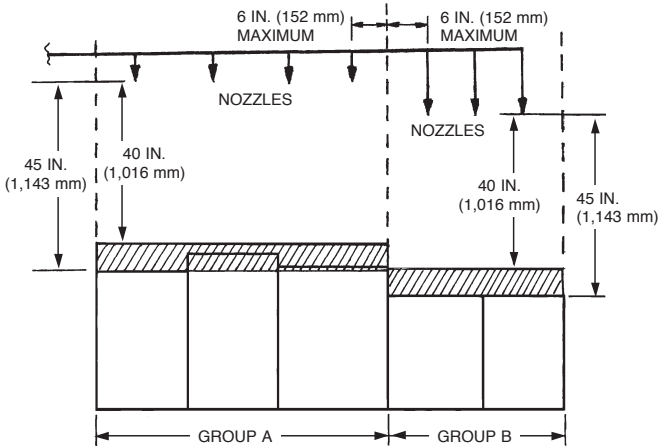

FIGURE 4-138
- 4. On protected appliances, all hazard surfaces located in a group must be within 40 in. to 45 in. (1,016 mm to 1,143 mm) from the nozzles. Once that dimension is exceeded, a new group must be started. See Figure 4-138.